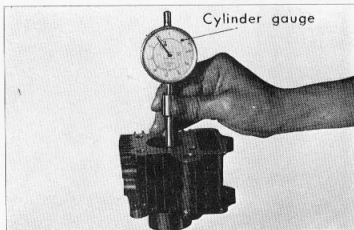

Figure 3-39. Measuring cylinder inside diameter
- (1) Cylinder bore, [] is for C50, C50M, S50 (Fig. 3-39, 3-40)